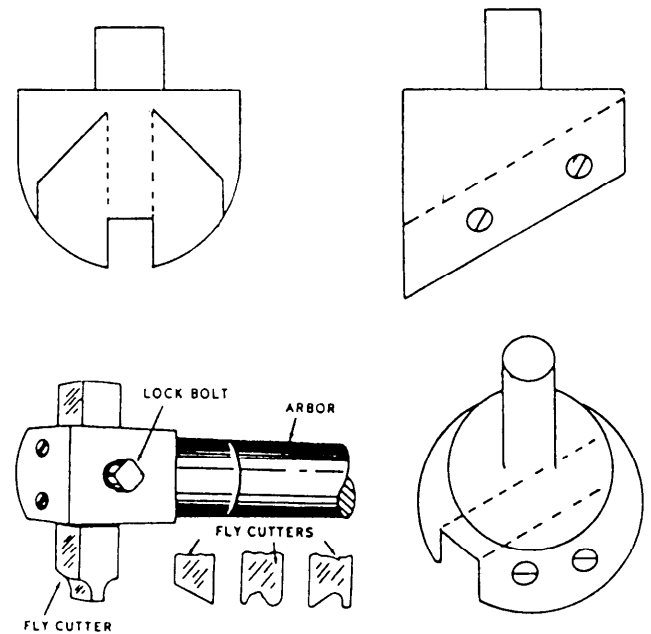

Figure 7-45.—Fly cutter arbor and fly cutters.
**FLY CUTTER.**—The fly cutter (fig. 7-45) is often manufactured locally. It is a single-point cutting tool similar in shape to a lathe or shaper tool. It is held and rotated by a fly cutter arbor. There will be times when you need a special formed cutter for a very limited number of cutting or boring operations. This will probably be the type of cutter you will use since you can grind it to almost any form you need.
Fly cutter arbors are used to hold single-point cutters. These cutters (fig. 7-45) can be ground to any desired shape and held in the arbor by a locknut. Fly cutter arbor shanks may have a standard milling machine spindle taper, a Brown and Sharpe taper, or a Morse taper.